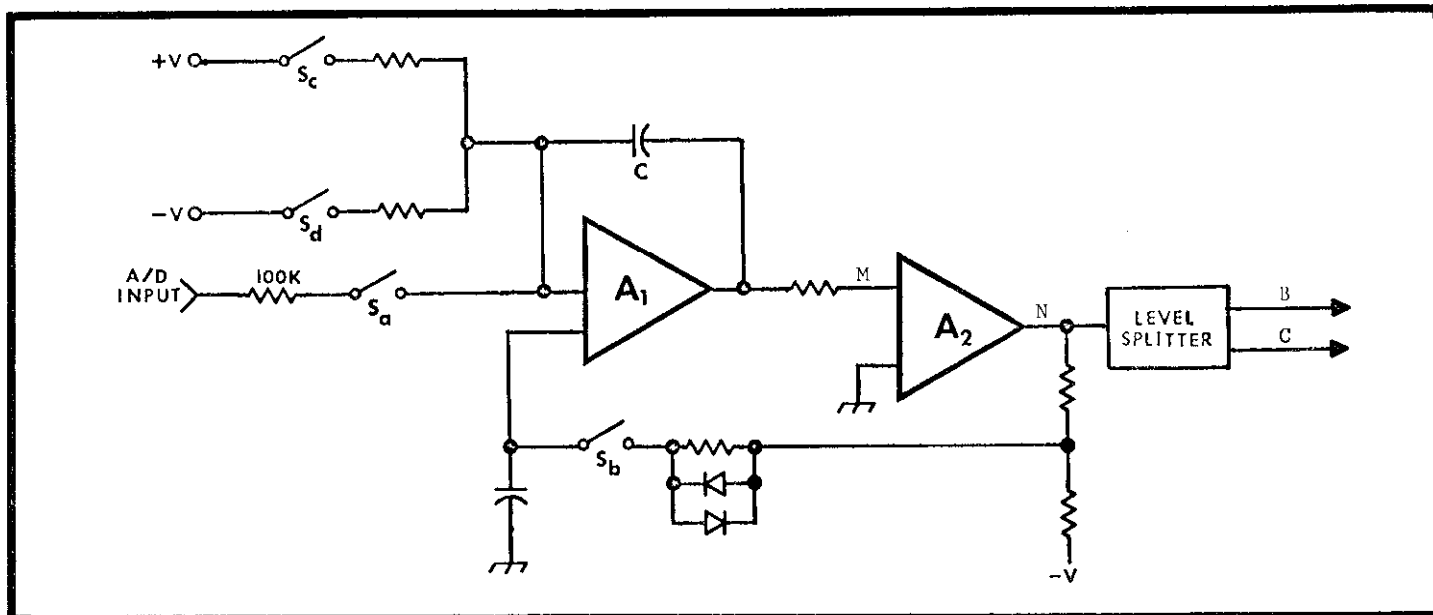

FIGURE 10. Integrator Block Diagram.
1. Zero Period. During this period the integrator amplifier is zeroed by a feedback rezeroing circuit as shown in Figure 10. Switches Sa, Sb, and Sd are open to prevent integrator charging.
1. Integrator Circuit. (Refer to Figure 10 for identification of switches Sa, Sb, Sc, and Sd). The operation of the Integrator is controlled by the positions of switches Sa, Sb, Sc, and Sd. Switch Sa is Q401. Switch Sb is transistor Q411. Transistors Q404, Q405, Q408, Q409, and Q410 are control circuits arranged to control the proper FET switches depending on the signals at pins 12 and 13. The integrator amplifier consists of transistors Q402 and Q403 and integrated circuit QA401. The feedback capacitor is C406. Switches Sc and Sd control the current for 9-volt zener diodes D401 and D402. Resistors R403, R404, R405, R409, R410, and R411 are full-scale calibration resistors. Potentiometers R402 and R408 are internal screwdriver calibration adjustments.
3. Feedback Rezeroing Circuit. This circuit provides rezeroing of the Integrator circuit using negative feedback from the Zero Crossing Detector output. Transistor Q411 is the equivalent of Switch Sb in Figure 10. Resistor R434 and capacitor C414 form a feedback-loop filter circuit. Diodes D407 and D408 provide fast response for large input offsets due to input overloads.